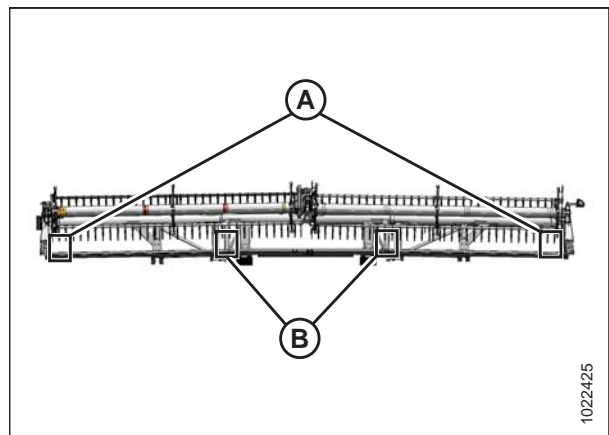

Figure 5.224: Measurement Locations
8. Measure the clearance (X) between points (C) and (D) at the ends of each reel (A), and at the flex locations (B). (Refer to Figure 5.224, page 504 for measurement locations.)